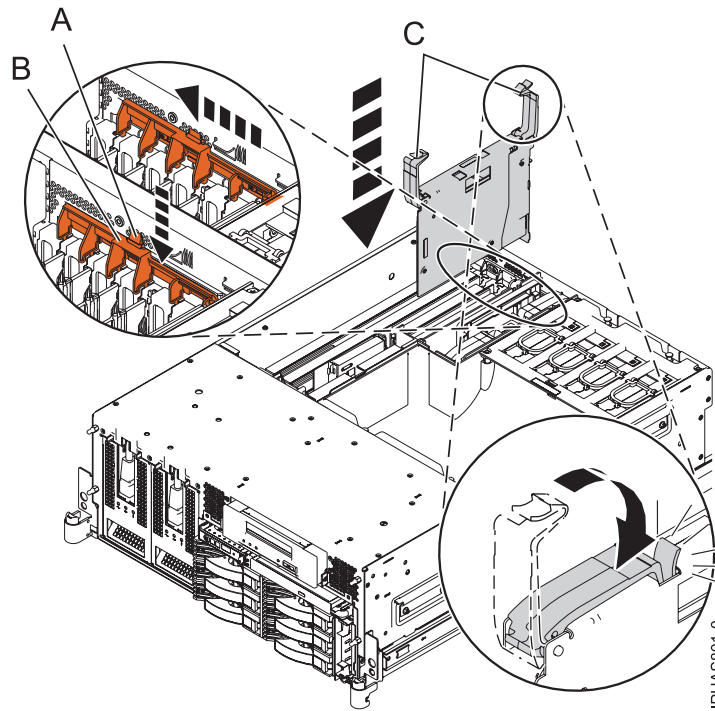

Figure 4. Adapter installation in a rack-mounted system (8203-E4A, 8261-E4S, or 9408-M25)
- For model 8203-E4A, 8261-E4S, or 9408-M25, see Figure 4 on page 11. Push down evenly on both of the blue locking latches **(A)** at the same time until the latches snap into place, indicating that the adapter assembly is seated correctly and locked into position. Slide the retainer to the left **(B)** and then push down to close **(C)** the retainer.